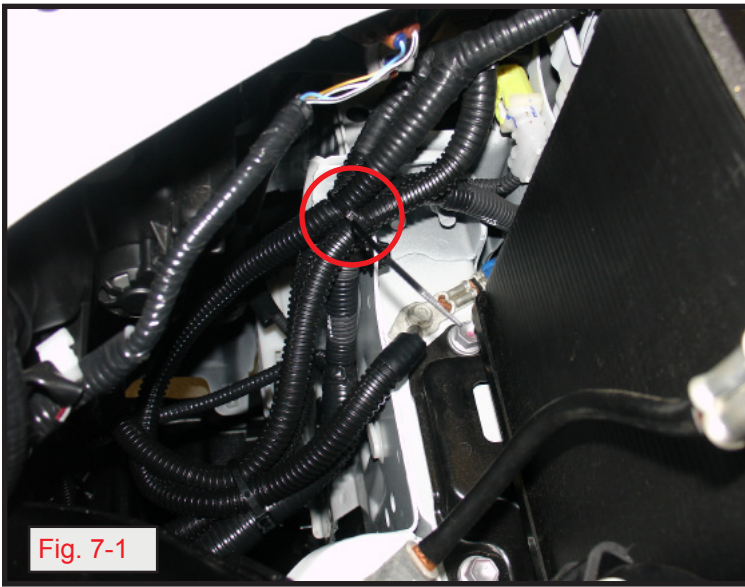

Fig. 7-1
a. Apply one (1) wire tie behind the left headlight to secure all three (3) fog light harness branches to the vehicle ground harness as shown (Fig. 7-1).